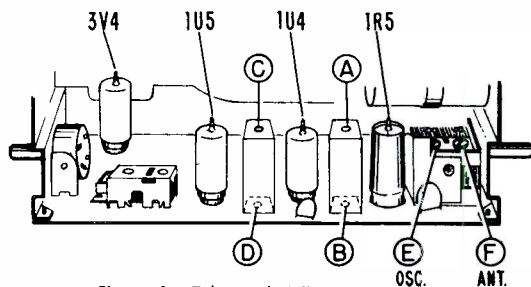

Figure 1. Tube and Adjustment Location.
*Adjustments B and D are made from underside of chassis. See figure 1. To avoid splitting the slotted head of powdered iron tuning slug in IF transformers, use an alignment tool with a blade 3/32" wide.
* Adjustment "A" made from underside of chassis; see figure 1.